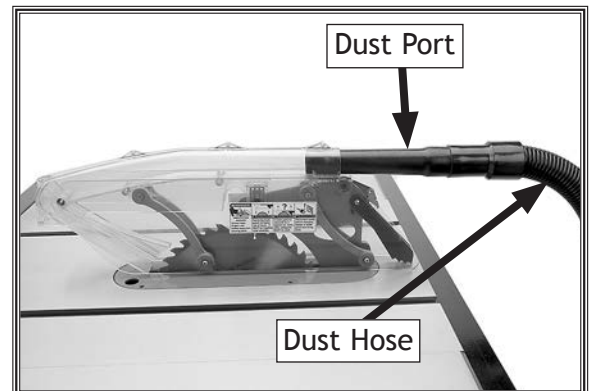

Figure 52. Dust port and dust collection hose installed on blade guard.
5. Connect dust collection hose to blade guard as shown in **Figure 52**. For more information, see **Dust Collection** on **Page 29**.